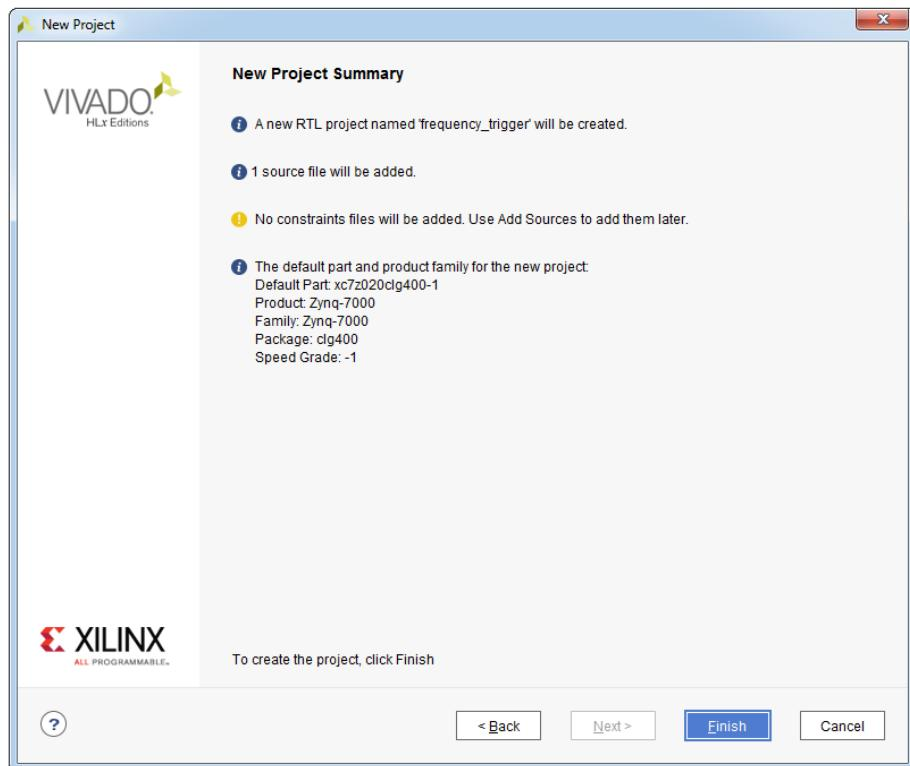

Figure 12.11: New Project Summary dialog box
11. In the **New Project Summary** dialog box, click **Finish** if you are satisfied with the summary of your project or go back as much as necessary to correct all the questionable issues, see Figure 12.11.